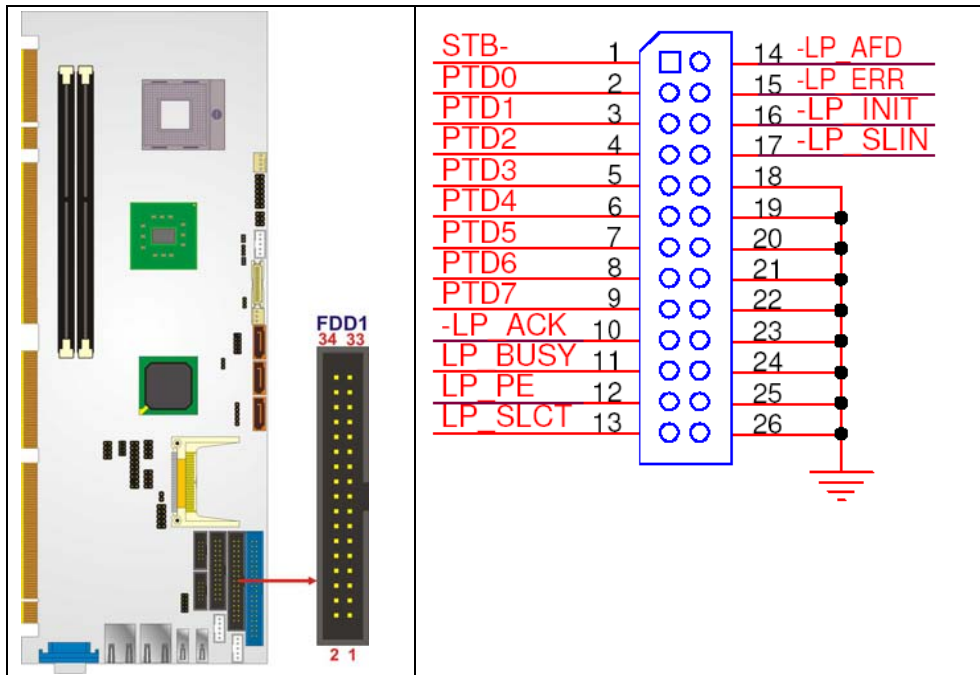

Figure 4-15: Parallel Port Connector Location
- CN Location:** See **Figure 4-15**
- CN Location:** See Figure 4-15